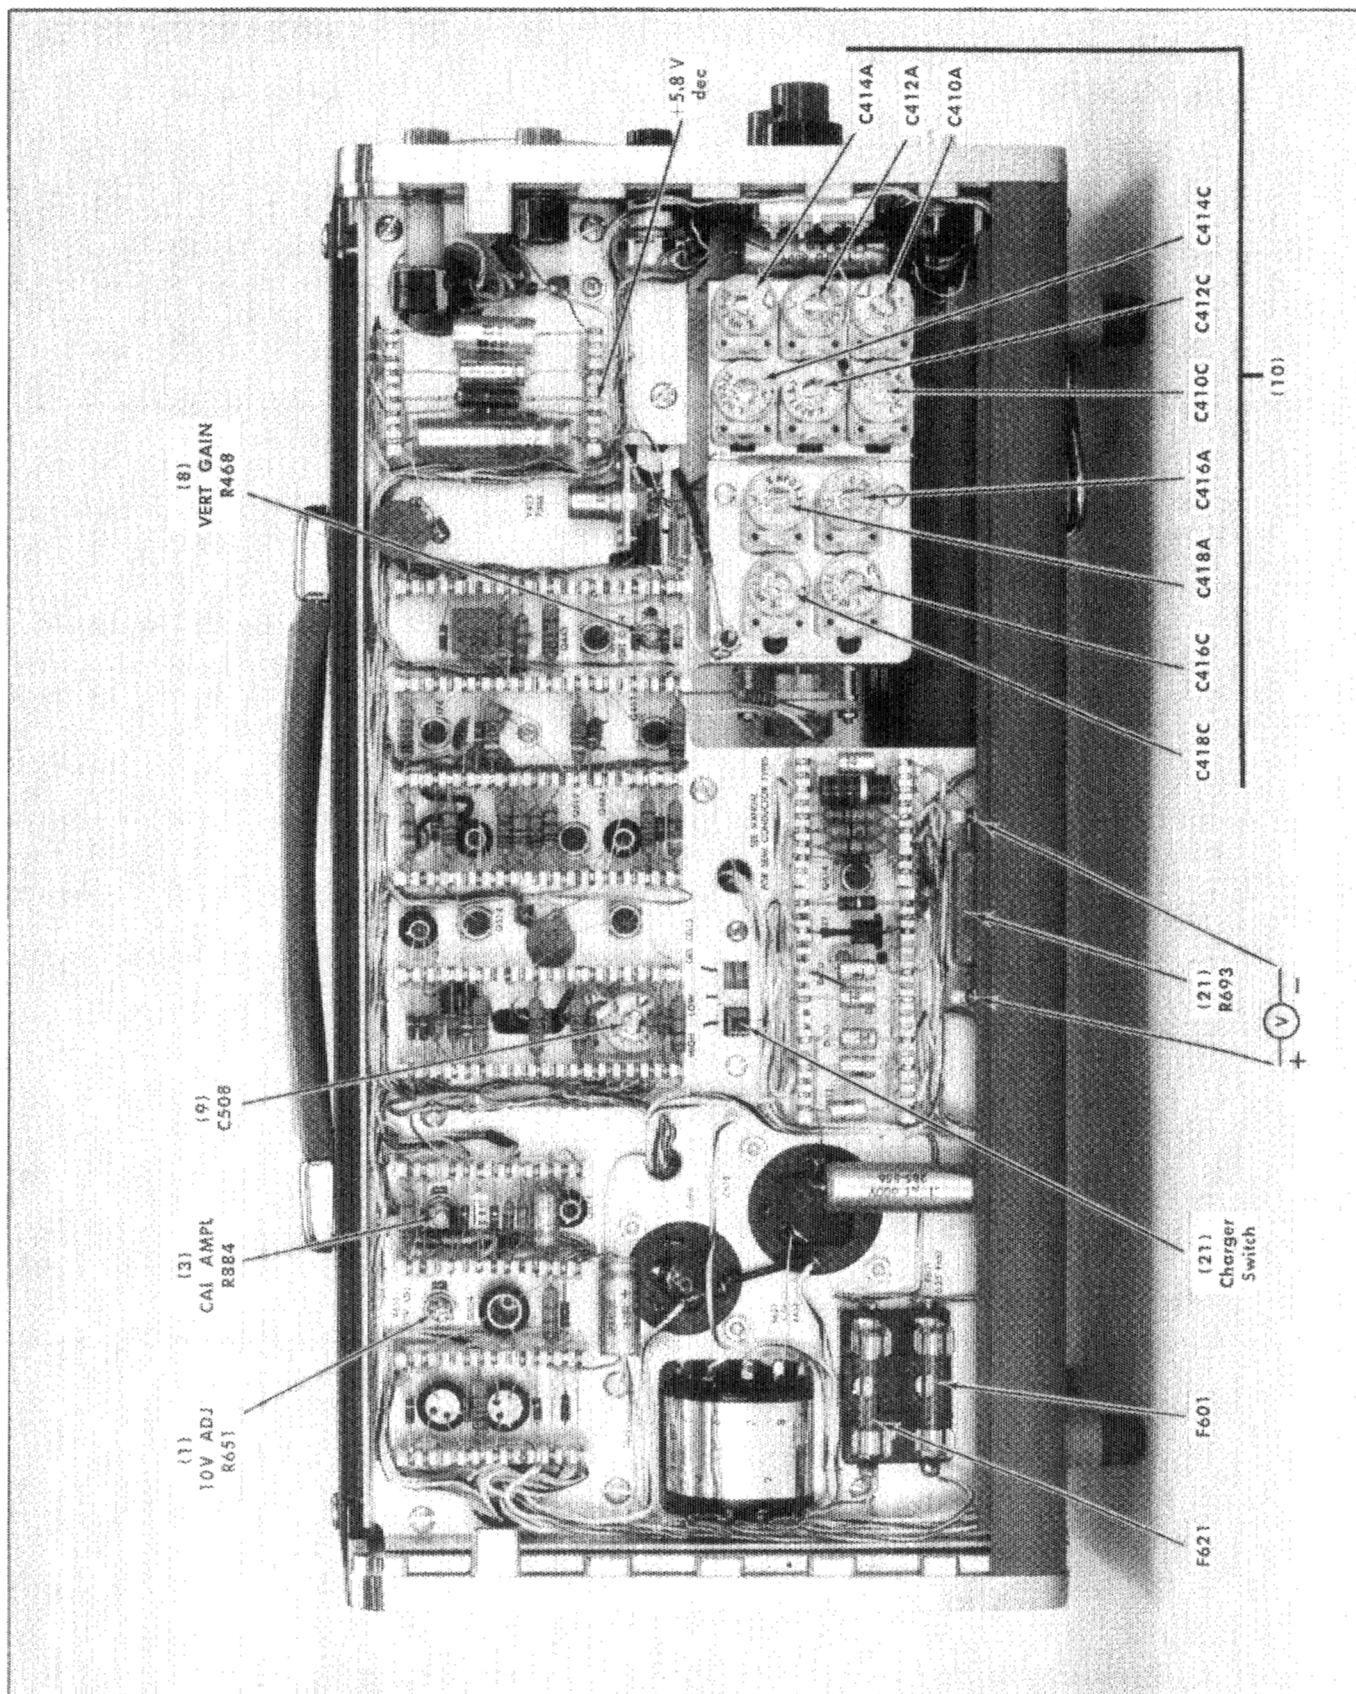

Fig. 6-5. Left-side view of the Type 321A Oscilloscope. The numbers in parenthesis refer to steps in the Calibration procedure.
- c. Approximately 4 divisions of signal should be displayed. Adjust the VERT GAIN R468 control (see Fig. 6-5) for exactly 4 divisions of vertical deflection.
- e. Adjust C508 (see Fig. 6-5) for best square-wave response; that is, for squarest leading top corner on the waveform.
- i. Using the information given in Table 6-2, adjust the two capacitors for each position (starting with the .02 VOLTS/DIV position) for best square-wave response. Location of the variable capacitors is shown in Fig. 6-5. Then, continue in a similar manner for the remaining VOLTS/DIV switch positions listed in the table. Maintain 4 divisions of deflection for each switch position providing the generator has sufficient output.
- Connect the dc voltmeter across R693. See Fig. 6-5 for location of R693 and polarity of voltage. Use Table 6-4 as a guide for typical voltage readings that should be obtained for the various switch positions.